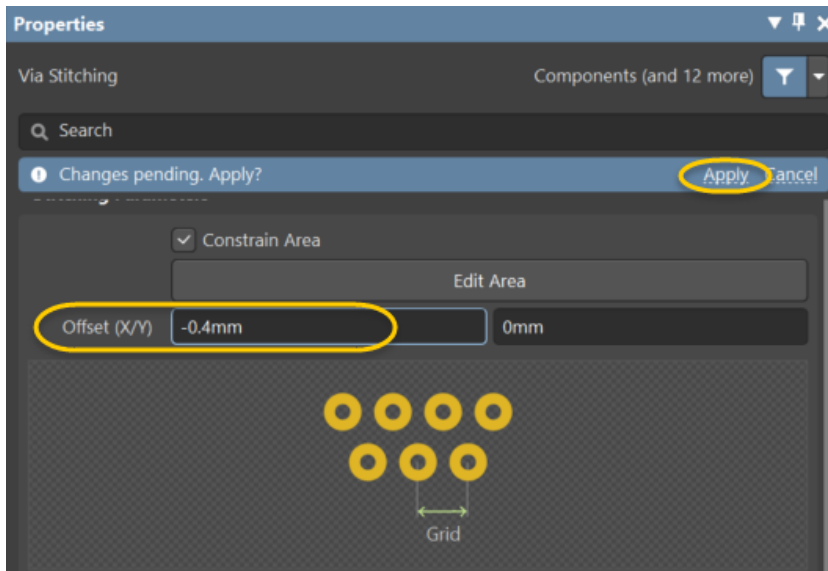

Figure 5. Changing the Via Stitching properties
- c) Once you press **Enter**, you'll be prompted to apply the new changes as shown in Figure 5.